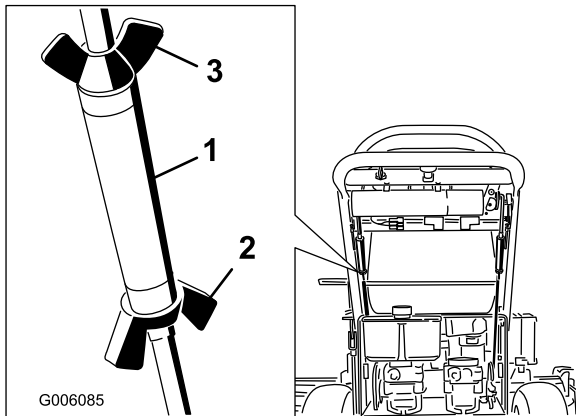

Figure 42
3. Secure the turnbuckle in position with the wing nuts (Figure 42).
5. Secure the turnbuckle in position with the wing nuts (Figure 42).